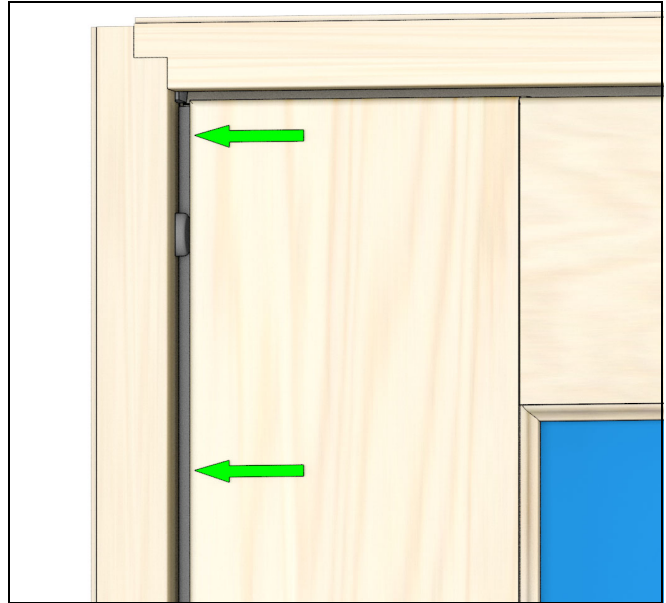

Figure 13
3. Slide the panel over to the jamb until it contacts the spacer tacks. Push panel in until it compresses the interior stop weather strip. See Figure 13.